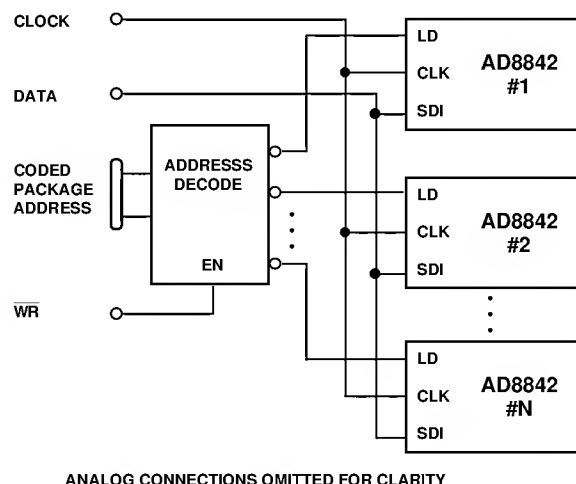

Figure 31. Addressing Multiple AD8842 Packages
The required address plus data input format is defined in the serial input decode Table I. Note there are 8 address states that result in no operation (NOP) or activity in the AD8842 when the positive edge triggered load-strobe (LD) is activated. This NOP can be used in cascaded applications where only one DAC out of several packages needs updating. The packages not requiring data changes would receive the NOP address, that is, all zeros. It takes 12 clocks on the CLK pin to fully load the serial-input shift-register. Data on the SDI input pin is subject to the timing diagram (Figure 3) data setup and data hold time requirements. After the twelfth clock pulse the processor needs to activate the LD strobe to have the AD8842 decode the serial-register contents and update the target DAC register with the 8-bit data word. This needs to be done before the thirteenth positive clock edge. The timing requirements are provided in the electrical characteristic table and in the Figure 3 timing diagram. After twelve clock edges, data initially loaded into the shift register at SDI appears at the shift register output SDO. A multiple package interface circuit is shown in Figure 31. In this topology all the devices are clocked with the new data; however, only the decoded package address signal updates the target package LD strobe which is being used as a chip select.